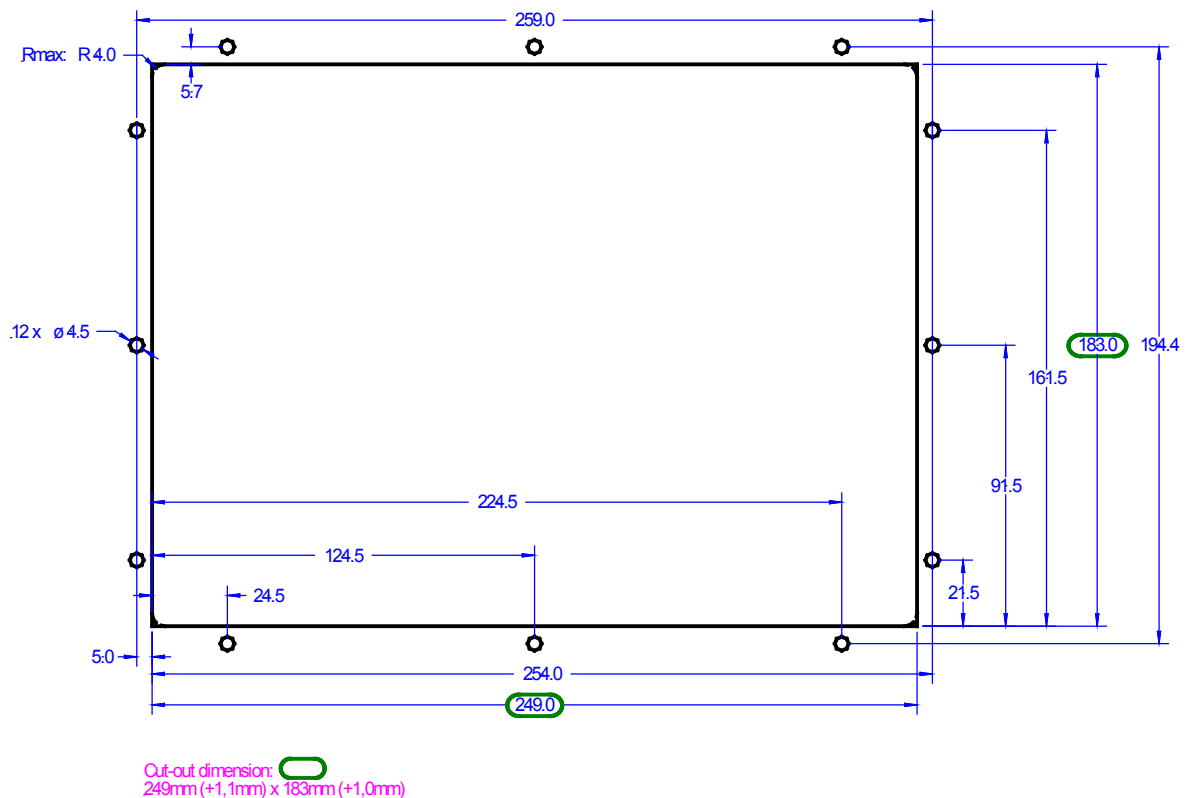

Figure 4-5: Plastic housing - drill plan
Refer to Figure 4-5 on page 15 for a cutout drawing.
The housing is equipped with 12 nut inserts (refer to Figure 4-5 for their position), which must all be tightened properly to achieve the required degree of protection.
1. Cut out the panel and drill the holes according to the dimensions in Figure 4-5 (dimensions shown in mm).